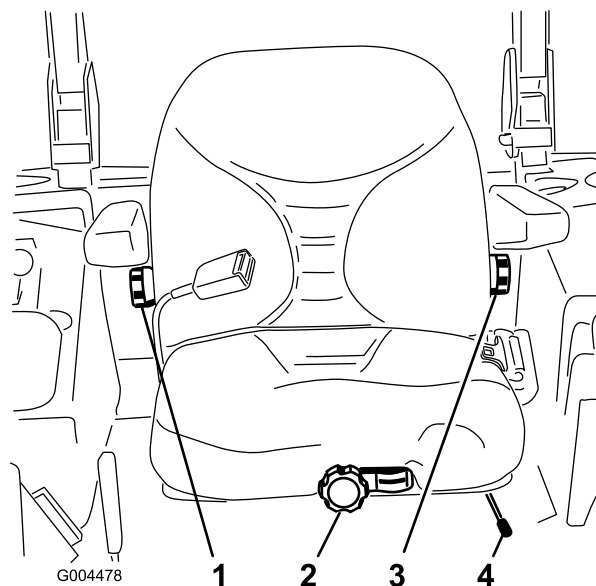

Figure 35
1. To adjust, move the lever sideways to unlock the seat (Figure 35).
Without sitting on the seat, turn the knob in front either direction to provide the best comfort (Figure 35).
To adjust it, turn the knob, under the right-side arm rest, in either direction to provide the best comfort (Figure 35).
To adjust it, turn the knob, under the left-side arm rest, in either direction to provide the best comfort (Figure 35).